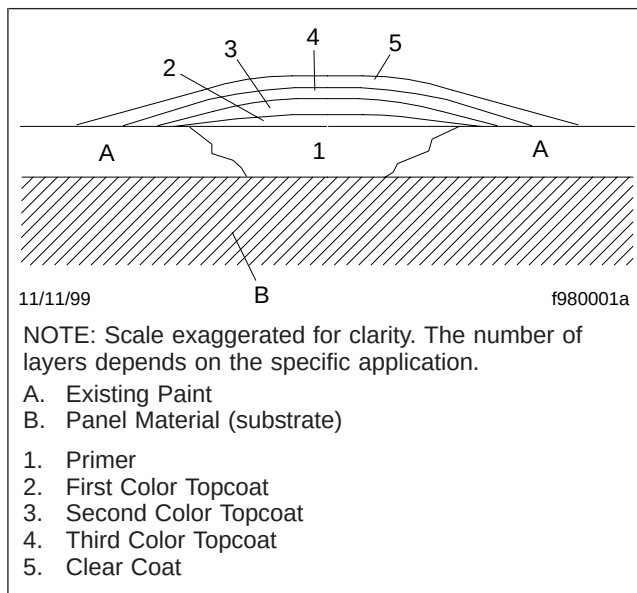

Fig. 1, Spot Repair Cross-Section
10. Prime all bare metal and feathered areas with DuPont primer. See Fig. 1.